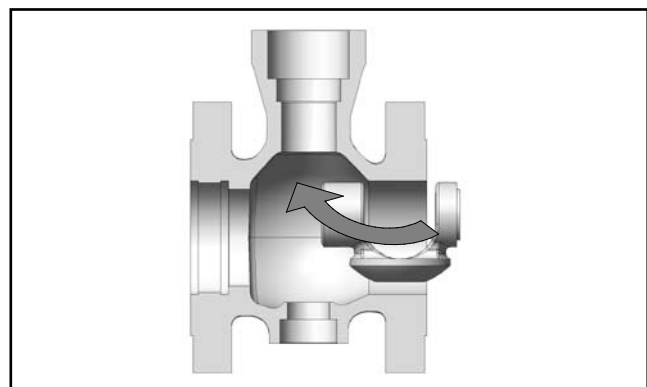

Figure 2b: Plug Installation
- 6.5 Insert the plug in the body as shown in figure 2b.
- NOTE:** The end post bearing (item 84) is pressed into the plug.